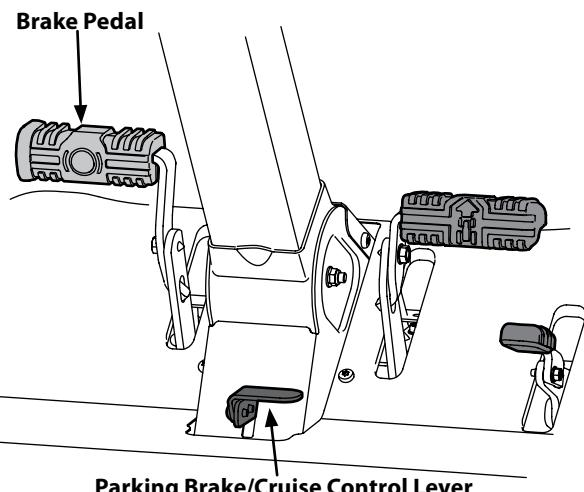

Figure 12
2. Engage the parking brake by pressing forward on the brake pedal (O), then press down on the parking break/cruise control lever and then release the brake pedal (O). Refer to Figure 12.
3. Make certain the PTO switch is in the disengaged (down) position. Refer to Figure 12.